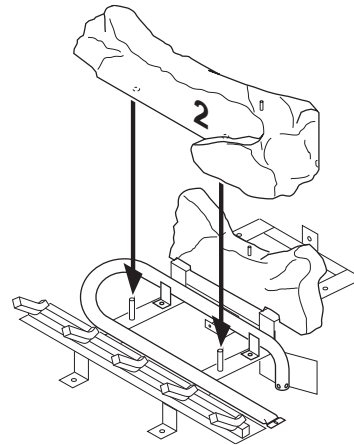

Figure 45 - Installing Log No. 2
2. Rest log #2 (large front log) on the pins on the front part of the grate (see Figure 45).